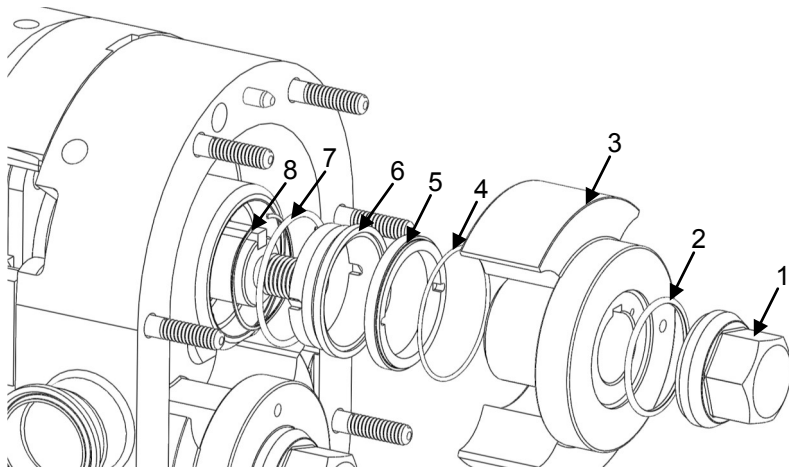

Figure 3: Exploded View
3) Remove the rotors by orientating them perpendicular to each other and then pulling them out. It is important to be cautious with the rotors so that they are not damaged in any way. If rotors are difficult to remove, use a nylon or wood lever to pry them out without damaging the body or the rotors. Use Figure 3 to ensure that all parts are removed.